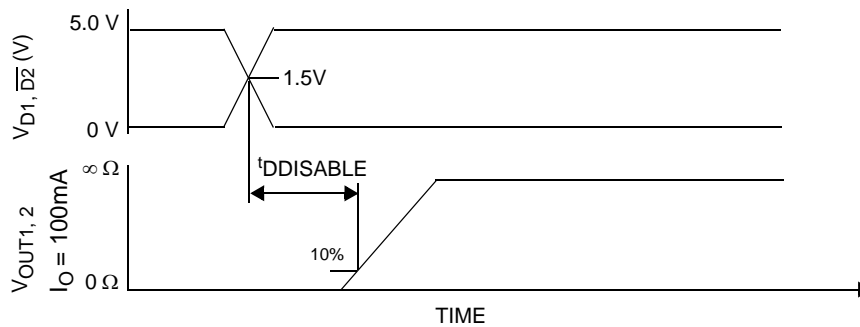

Figure 5. Disable Delay Time
26. * Disable Delay Time measurement is defined in Figure 5, page 9.